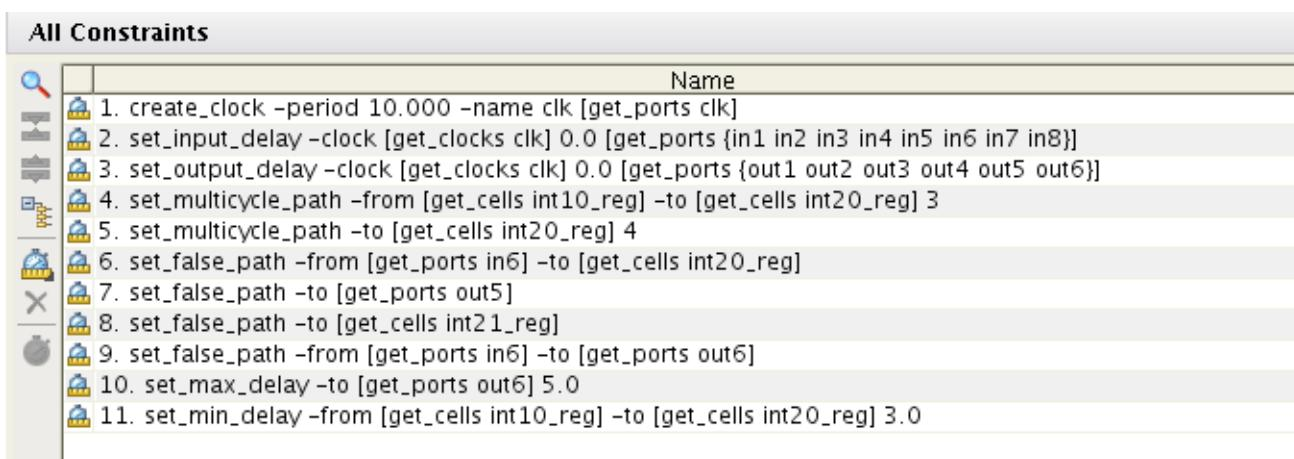

Figure 2-29: Constraints Window Displaying Timing Constraint Changes
- The Position column indicates the constraint position number. This is the same position number reported by the Timing Constraint Window, shown in Figure 2-29, page 67.